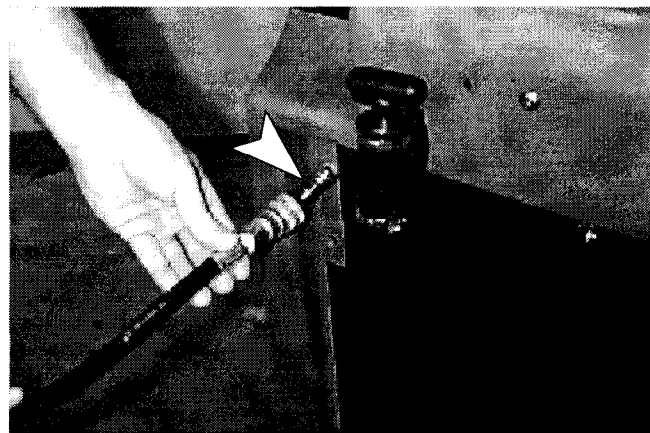

FIG. 20.
2. Connect bleeder hose to floor tool coupler. (Figure 20)